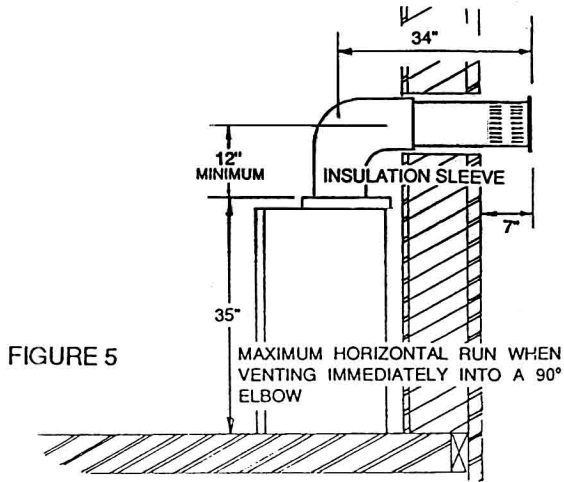

FIGURE 5
**\* NOTE: THE FIRST 3-1/2 FEET OF OUTER 8 INCH DIAMETER VENT PIPE FROM THE APPLIANCE MUST BE WRAPPED IN THE 1 INCH THICK INSULATION SLEEVE (SUPPLIED) AS WELL AS HAVING A 1 INCH AIR GAP (Fig 5).**
These vent kits allow for either horizontal or vertical venting of the fireplace (Figures 5, 6, & 7). The maximum number of vent connections is two horizontally or three vertically (excluding the fireplace and the air terminal connections). Specific vent components are available for venting vertically through the roof. Items for various installations of this variety are available from your Napoleon dealer. Specifically, roof supports and flashings for flat, 1/12 - 7/12 pitch and 8/12 - 12/12 pitch roof designs, vertical raincaps and telescoping sleeves are available.
This application occurs when venting through an exterior wall (Fig. 5 & 6) Having determined the air terminal location: